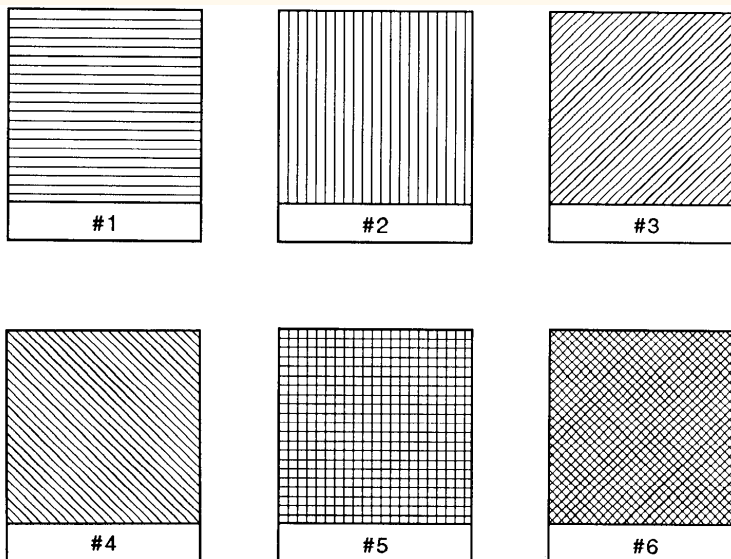

Figure 103. Patterns for Fill Type 21
Additional fill types (21 and 22) are imported from PCL or HP RTL. *Fill_type* 21 selects a PCL or HP RTL predefined patterned fill. *Option1* specifies a pattern type from 1 to 6 (see Figure 103). *Option2* is ignored. *Fill_type* 22 uses the PCL or HP RTL user-defined fill specified by [ESC*c#W\[pattern data\]](#), Download Pattern. *Option1* is the PCL or HP RTL ID of the user-defined fill. *Option2* is ignored. An invalid *option1* (for example, where the pattern has been deleted), prints a solid fill in the current color.
5. For *fill_type* 21, which is only available with devices that support the dual-context extension, the predefined pattern fill is imported from PCL or HP RTL. *Option1* specifies the pattern type, using a value from 1 to 6 as shown in Figure 103.